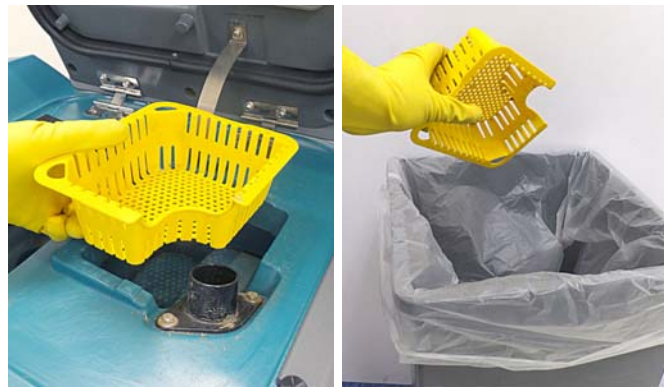

FIG. 95
2. Remove the debris tray and empty (Figure 95).